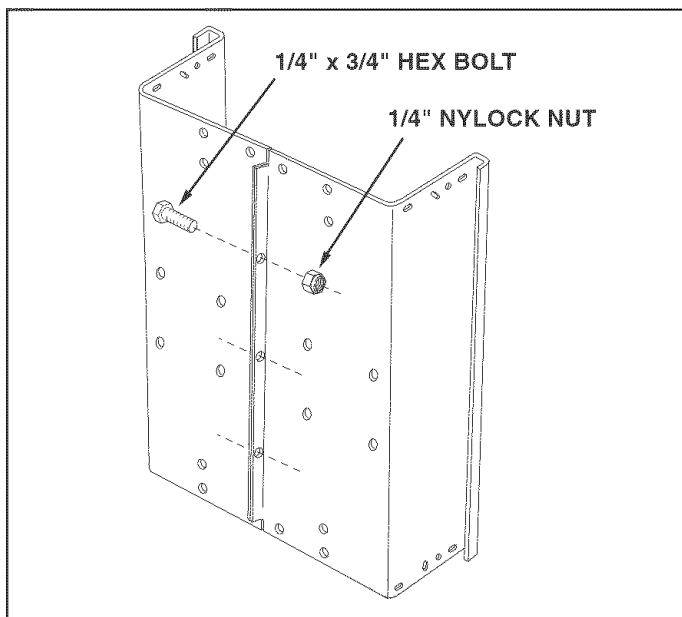

FIGURE 1
- Place cart body halves upright on a smooth level surface such as a garage floor or a paved driveway. See figure 1.
- Assemble cart body halves together using three 1/4" x 3/4" hex bolts and 1/4" nylock nuts as shown in figure 1. **Do not tighten yet.**